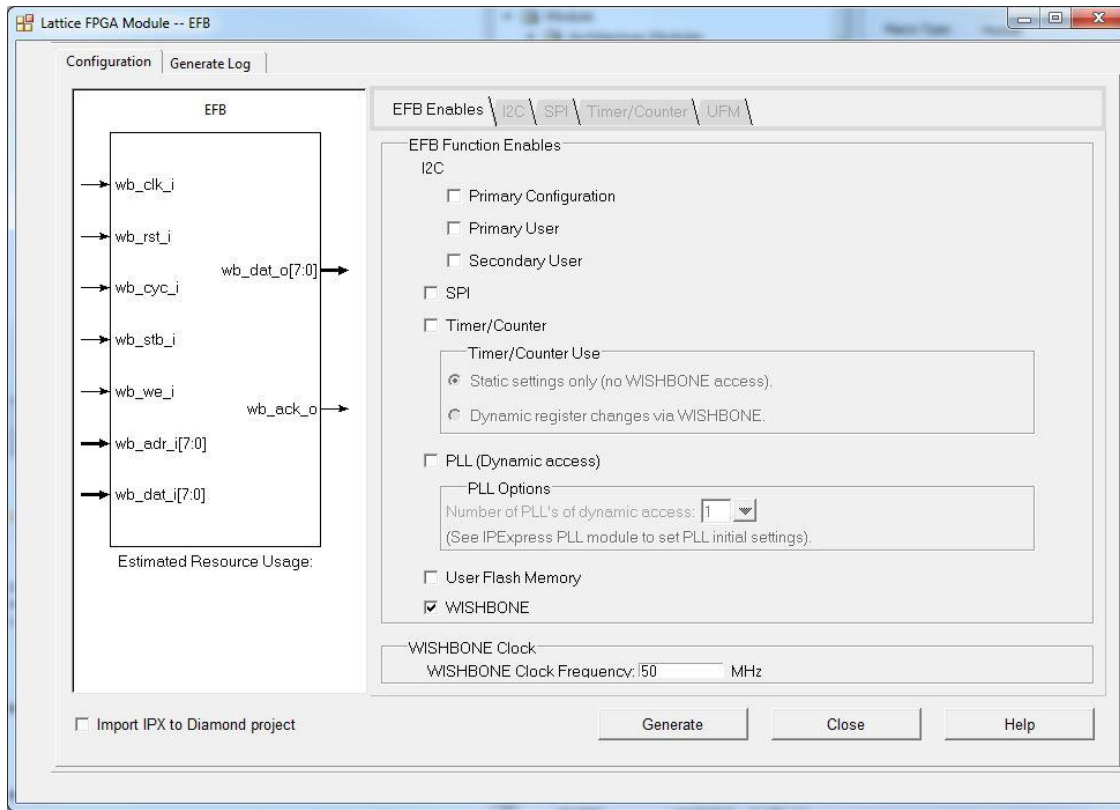

Figure 6.2. Generating an EFB Module with IPExpress
4. The EFB configuration dialog appears. The left side of the EFB window displays a graphical representation of the I/O associated with each IP function. The I/O pins appear and disappear as each IP is enabled or disabled. Check the tab for **WISHBONE**, and enter the **WISHBONE Clock Frequency**. An example EFB with all features enabled is shown in Figure 6.2.